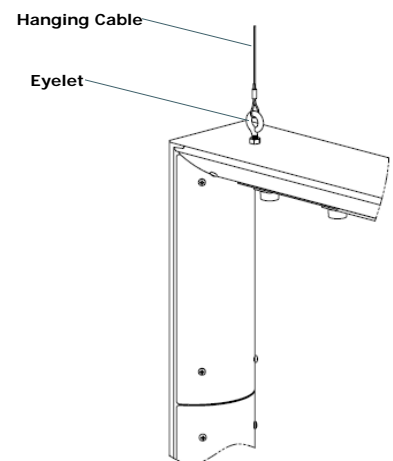

Figure 18
1. Locate the hanging Eyelets which will be pre-installed into the top of the display frame. **See Figure 18.**